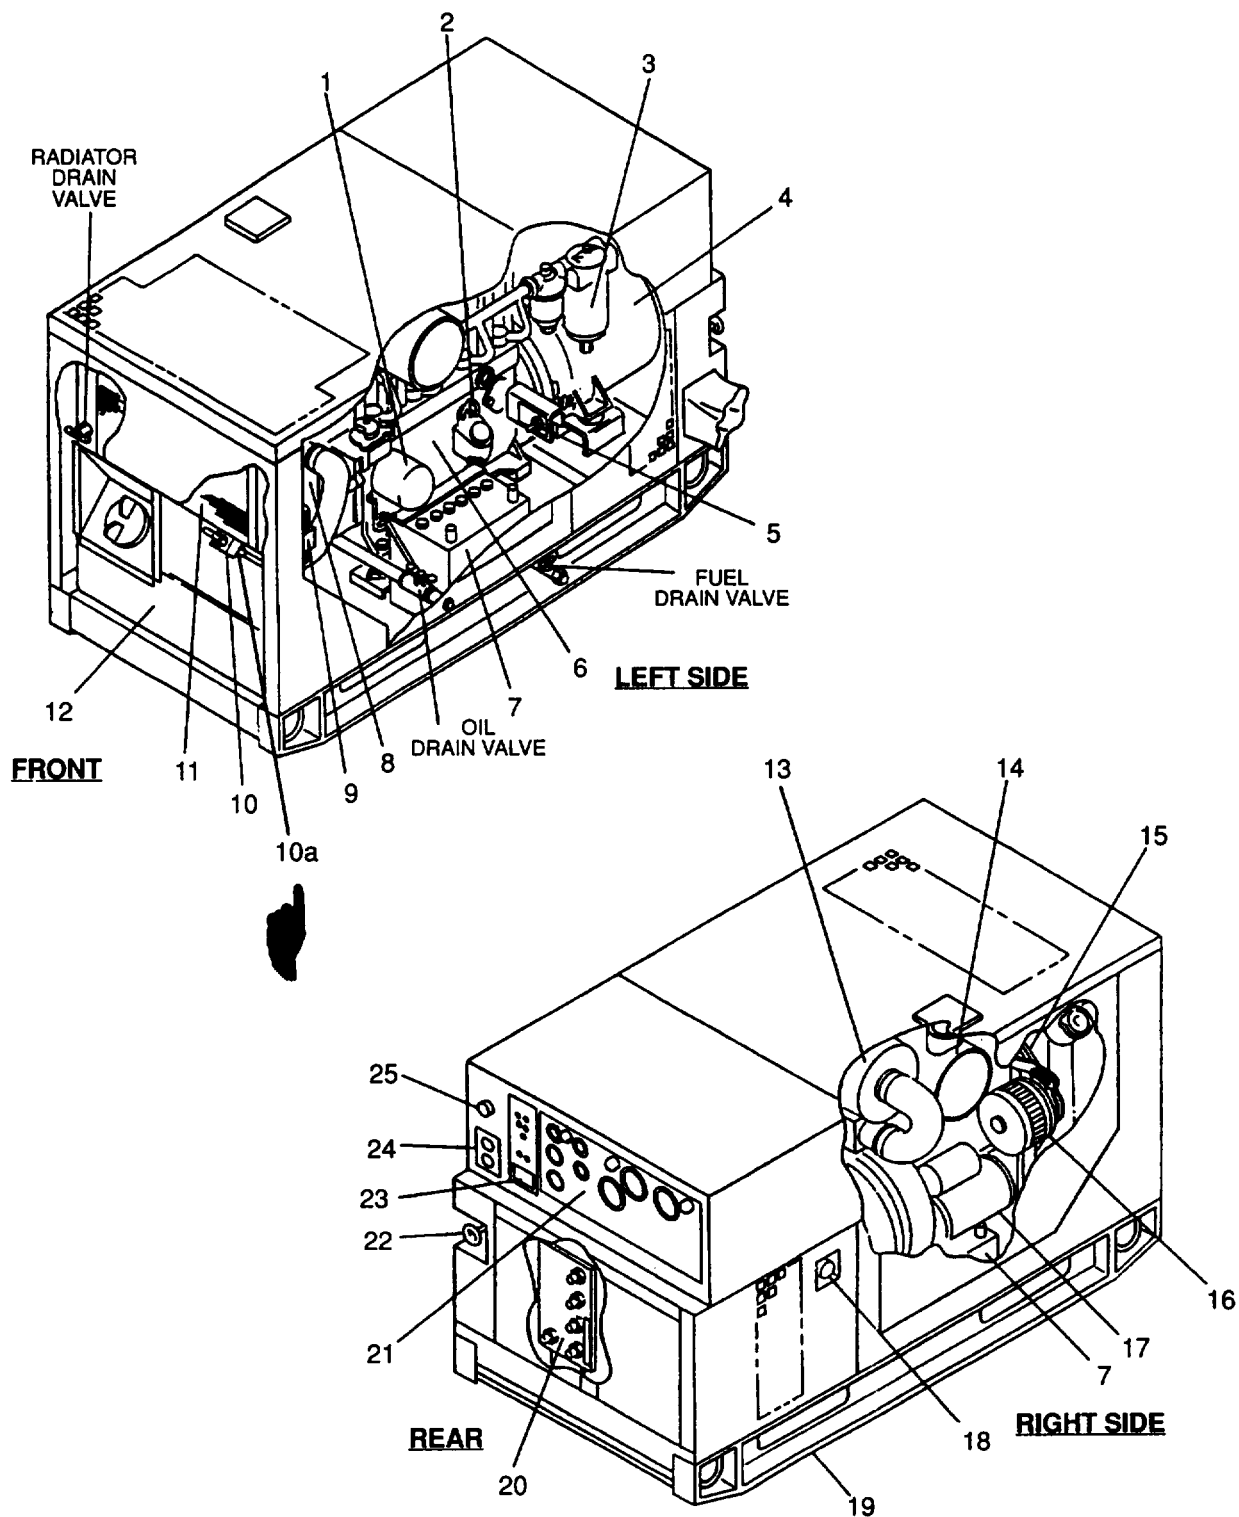

FIGURE 1-12. Generator Set Components
All locations (FIGURE 1-12) referenced herein are given facing the control box side (rear) of the generator set.
- a. Check that fuel drain valve (FIGURE 1-12) is closed.
- b. Open left side of engine access door. Open oil drain valve (FIGURE 1-12) and drain oil.